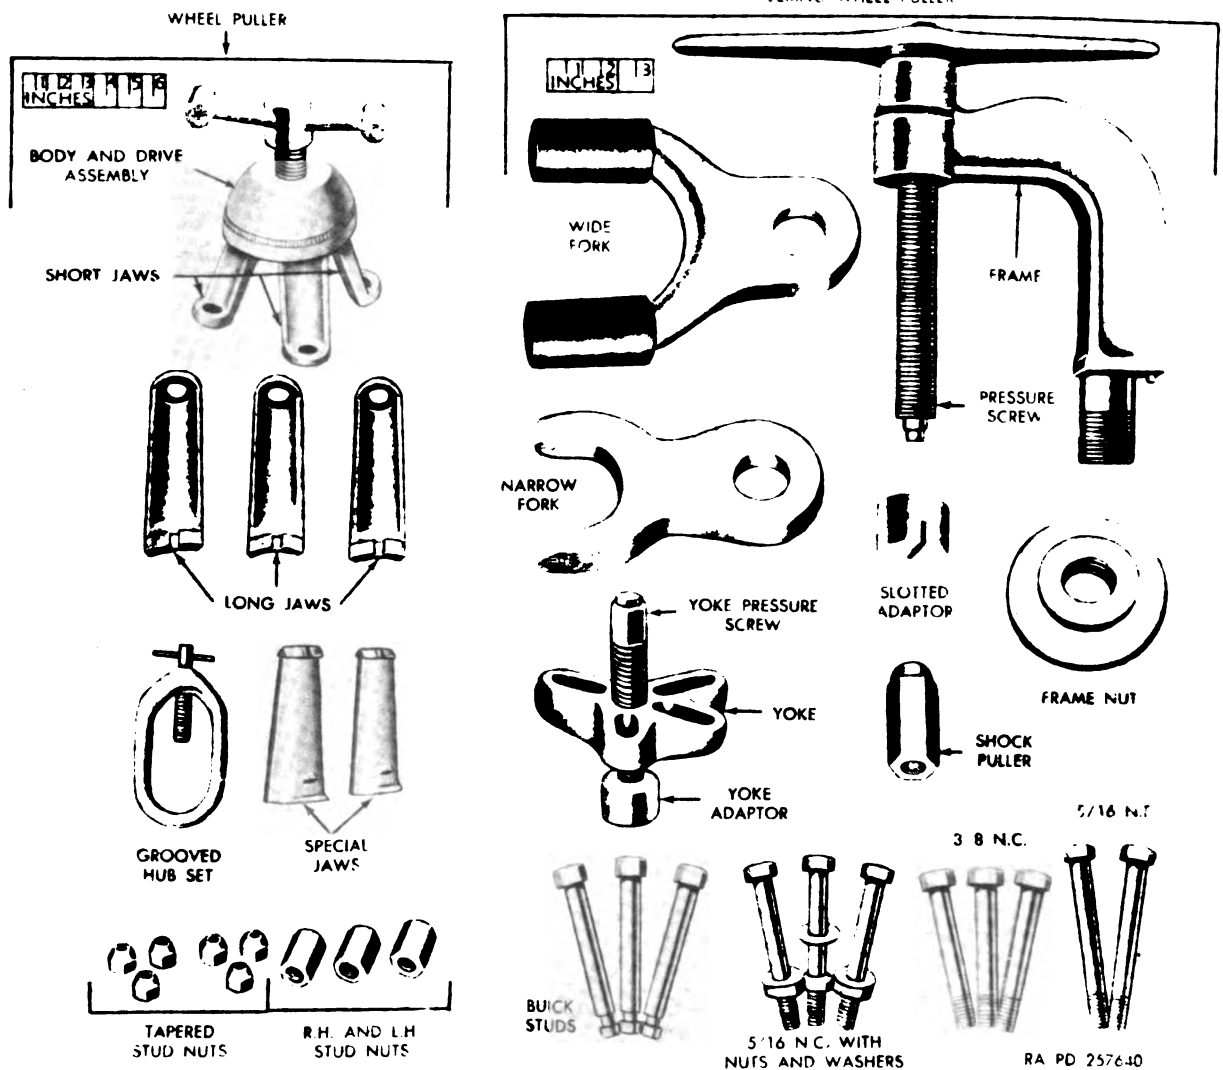
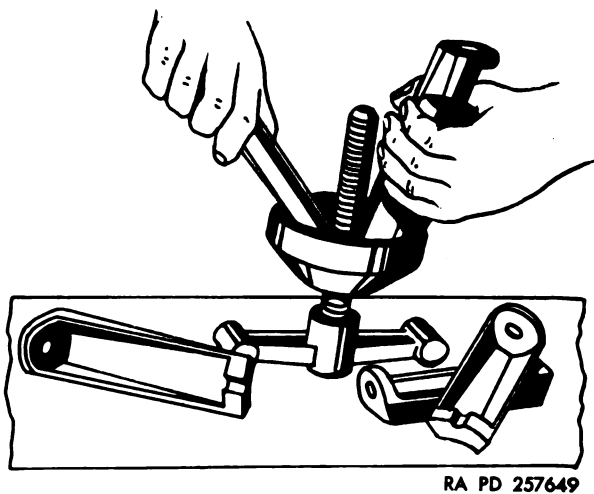

Figure 170. Steering wheel and wheel pullers.
Figure 179. Interchanging wheel puller jaws.
- (7) *Steering wheel puller.* A universal-type steering wheel puller is shown in figure 170. The set consists of all the units necessary for removal of steering wheels on all cars and trucks from early models up to the present.
- (8) *Wheel puller.* The universal wheel puller set (fig. 170) consists of a body
d. Steering Wheel Puller. The steering wheel puller set (fig. 170) handles all cars and trucks. The yoke puller and its related parts are used to pull the newer models, since they have tapped wheel hubs. The fork puller and
e. Wheel Puller. The universal wheel puller set (fig. 170) is quickly assembled by inserting the proper type jaws and attaching the tool to the wheel stud bolts. To interchange jaws, hold two jaws together, as shown in figure 179. This depresses the inner sleeve and allows room to remove or insert other jaws. To pull Ford